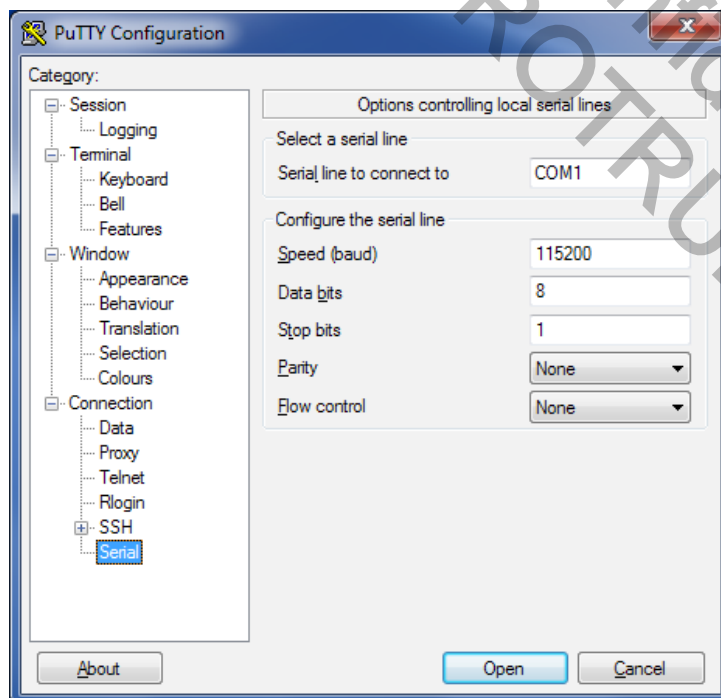
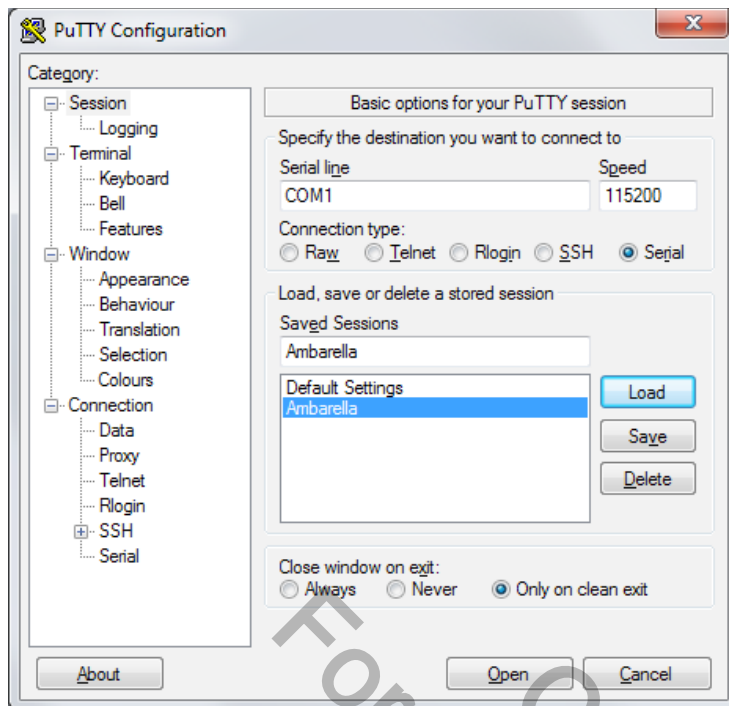

Figure 3-9. **PuTTY** Configuration - Serial Control.
Figure 3-10. PuTTY Configuration - Basic.
2. To enable a serial connection, configure **PuTTY** as follows (Figure 3-9 and Figure 3-10):